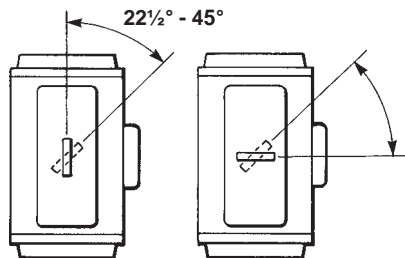

Fig. 7
5. To ensure proper meshing of the teeth, rotate the centre gear $22\frac{1}{2}^\circ - 45^\circ$ (one or two teeth) counter clockwise from its normal position with the piston assemblies situated at the body ends. (Normal position is that which provides the proper output shaft orientation - See Fig. 7).